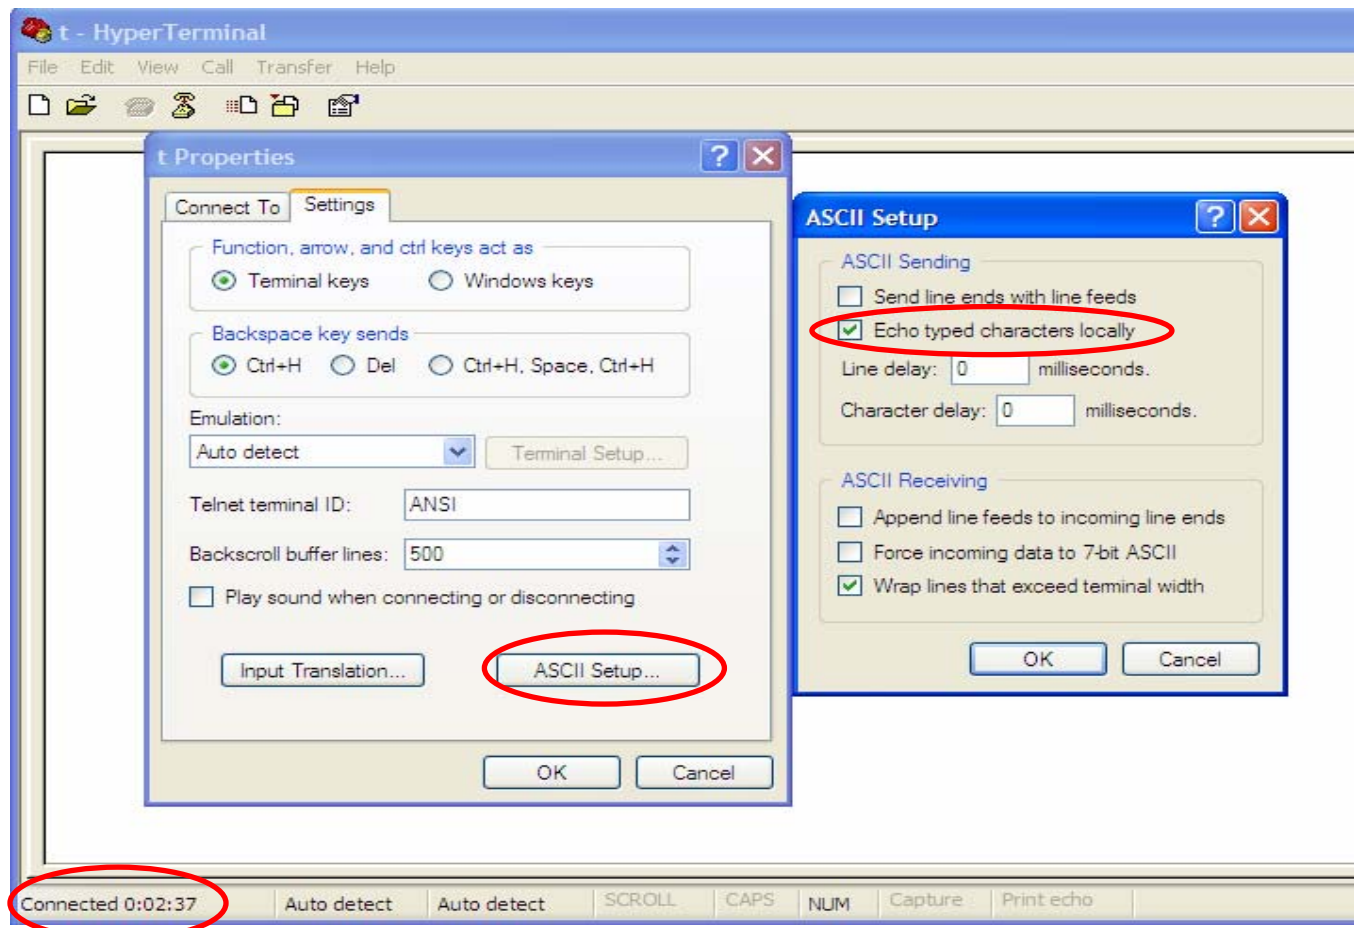

Fig. 3 HyperTerminal Setup
8. Once you have “connected” to the COM port, click File > Properties. Then choose the Settings tab as shown in Fig. 3. Next, click on ASCII Setup... and finally, check the “Echo typed characters locally”. Then click “OK” for both windows.